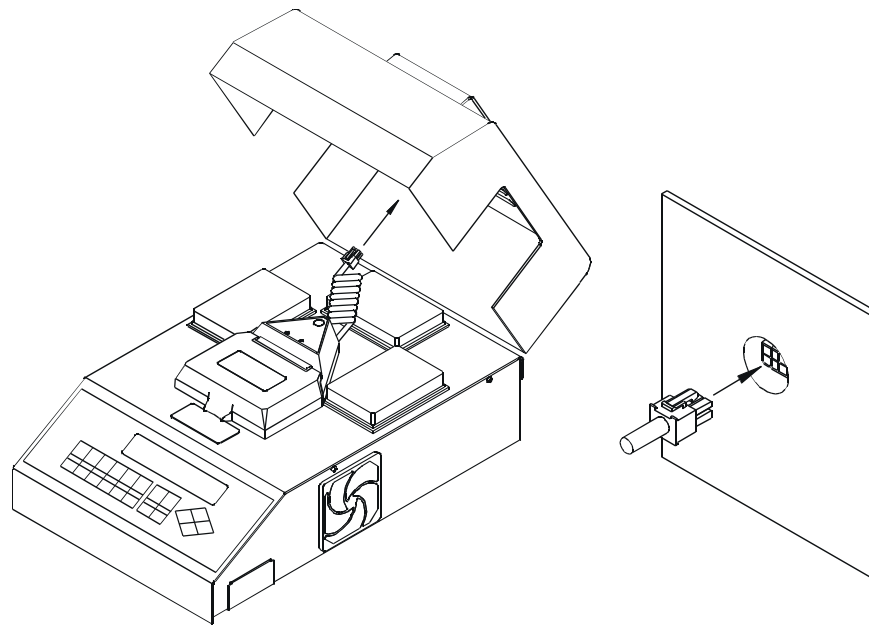

FIGURE 2 Connecting the Hot Top Assembly coiled control cable to the power entry module.
3. Connect the Hot Top Assembly coiled control cable to the Hot Top power entry module (See Figure 2). The power entry module is pre-installed on all RoboCycler temperature cyclers.
The gradient feature of the RoboCycler temperature cyclers is accessed through the *SHIFT* functions. To access the built-in special features of the RoboCycler Gradient temperature cyclers press the *SHIFT* key, then press the *SET GRAD* (1) or *CLR GRAD* (2) key (see Figure 2).